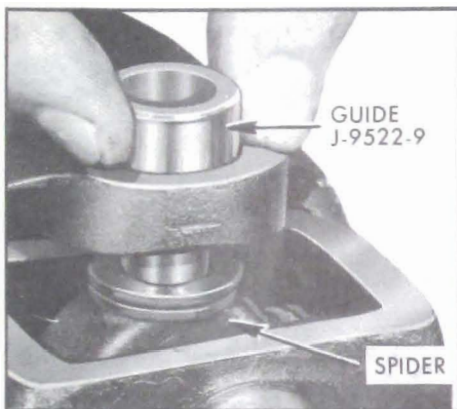

Figure 6-59—Installing Guide
5. Release the pump and the propeller shaft. Install Guide J-9522-9 through the bearing hole in the link yoke and over the journal end of the spider. See Figure 6-59. This guide assures alignment of the spider while removing the opposite bearing.